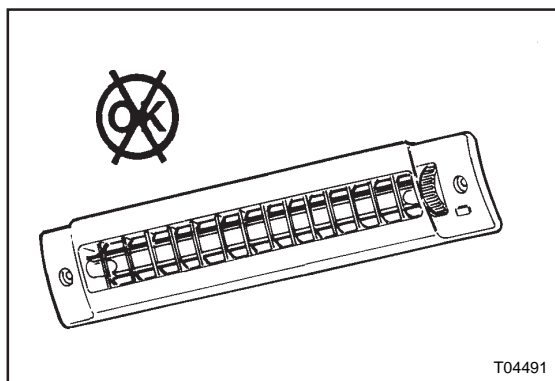
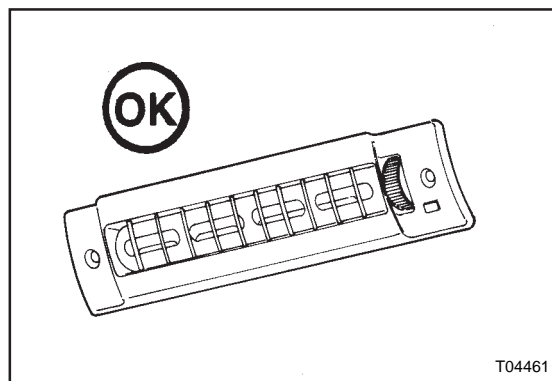

Figure 3: Butterfly valve air diffuser
Figure 4: Directional non-closing valve air diffuser
- 2 To replace passenger window butterfly valve air diffusers (see Figure 3) by directional non-closing valve air diffusers (see Figure 4)**